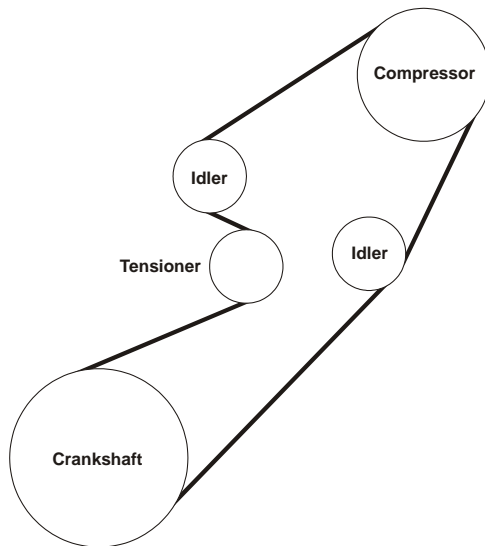

Figure 3.3
- Install the OEM belt, then the VR belt (Figure 3.3).